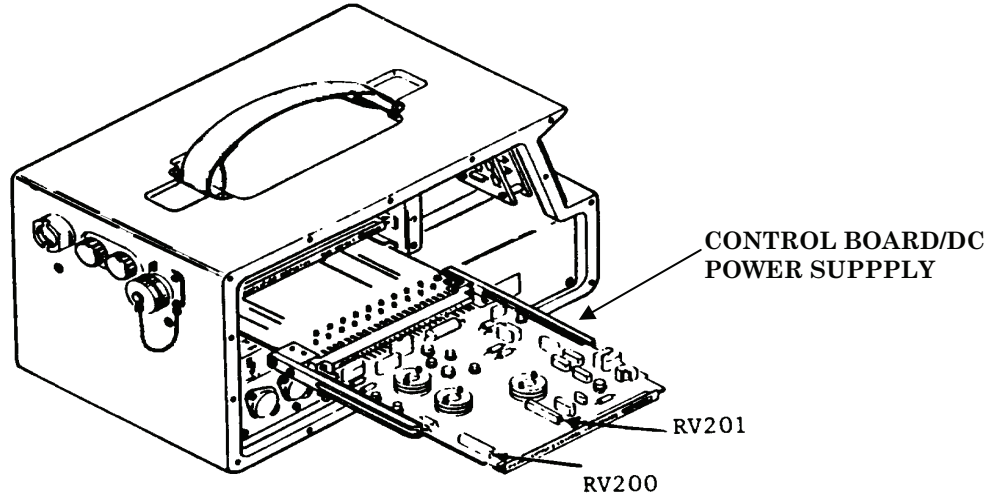

Figure 4. Reader adjustment power supply and control board location.
- (12) Adjust **NEUTRON CAL 800** until digital panel meter indicates  $800 \pm 1$  cGy.
- (13) Set selector switch to **NEUTRON CAL 800**.
- (14) Press and release **DEPRESS FOR READING** switch five times, recording digital panel reading each time.
- (15) Average the reading recorded in (14) above.
- (16) Average reading will be between 778 and 822 cGy.
- (17) Set selector switch to **READ**.
- (18) Adjust **SET VOLTS** knob (on voltage control unit) until multimeter indicates  $1.577 \pm 0.001$  V dc.
- (19) Press and release **DEPRESS FOR READING** switch five times, recording digital panel reading each time.
- (20) Average the readings and recorded the average value.
- (21) If average value is not between 4 and 6 cGy readjust **NEUTRON CAL 0** until average digital panel meter indication is between 4 and 6 cGy. Repeat (18) through (20) above.
(22) Set selector switch to **NEUTRON CAL 0** and while pressing and releasing the **DEPRESS FOR READING** switch, adjust RV201 (fig. 4) until digital panel meter indicates between 4 and 6 cGy (R).
- (1) Deenergize TI and dc power supply No. 1.
- (2) Remove side panel from TI. Do not remove ground wire.
- (3) Remove dc power supply and control board (fig. 4).
- (4) Reinstall DC POWER SUPPLY and CONTROL BOARD (fig. 4), using extender board supplied with maintenance kit.
- (5) Connect multimeter to dc power supply No. 1.
- (6) Energize dc power supply No. 1 and adjust for 24 V dc indication on multimeter.
- (7) Disconnect multimeter from dc power supply No. 1.
- (8) Set selector switch to **NEUTRON CAL 800**.
- (9) Connect multimeter to TP6 (-) and TP18 (+) on extender board. If multimeter does not indicate between -11.992 and -12.008 V dc, perform **b** below.
- (10) Deenergize TI and dc power supply.
- (11) Remove DC POWER SUPPLY and CONTROL BOARD (fig. 4) from extender board and reinstall into TI.
**b. Adjustments.** Adjust RV200 (fig. 4) until multimeter indicates between -11.992 and -12.008 V dc (R).